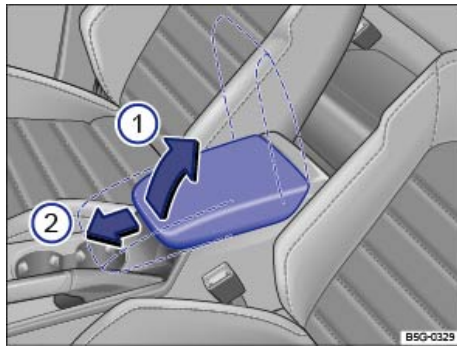

Fig. 45 Front center armrest.
To *raise* the center armrest, push the release button, pull the armrest up, and latch upward in the direction of the arrow ⇒ fig. 45 (1).